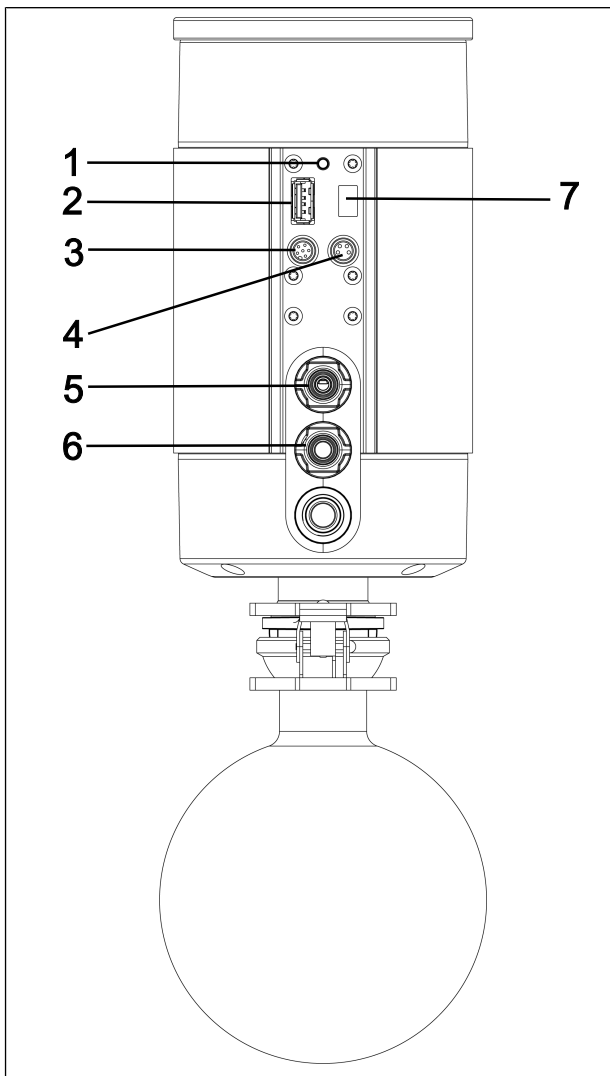

Fig.23: Separator SC
If the Paging button (Fig. 23/1) on the vacuum system is pressed and held for about 5 seconds, the vacuum controller responds to the vacuum system Paging button with an acoustic signal (see Chapter 9.2.2 *Operation without the vacuum controller* [72]).
3. Press the Pairing button (Fig. 23/1) on the pump for about 10 seconds.
If the vacuum controller has been removed, the following action can be carried out directly at the vacuum system (Fig. 23):